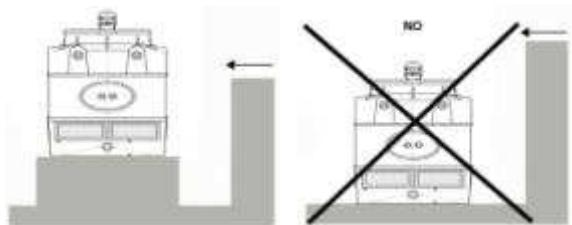

Fig. 21
- e) In case of existing obstacles close to the tower and higher than it, it will be necessary to install the tower in a higher position in order to get an air exit at the same height, at least, than the obstacle, especially in case the predominant air direction will be as indicated in Fig 21.